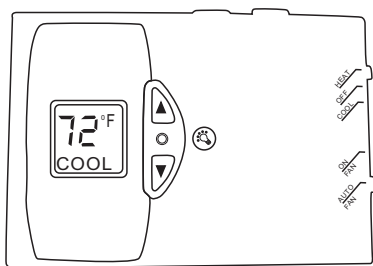

Fig 10. Wall thermostat
- . Push the mode switch to either positions (see Fig. 10) : Cool-off-Heat
- . Push the Fan switch to either positions (see Fig. 10) : On Fan-Auto Fan
- . Press the UP key to increase the temperature, or press the DOWN key to decrease the temperature (see Fig. 10)